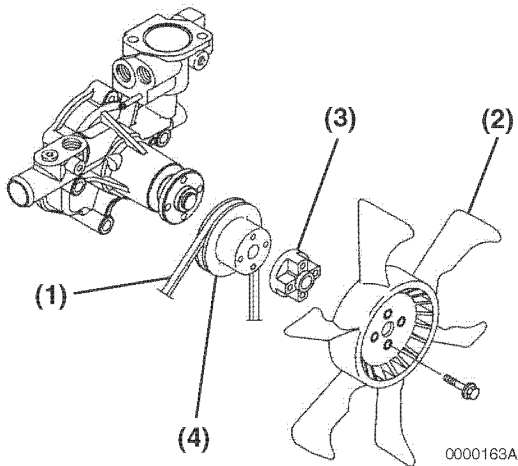

Figure 7-21
14. Reinstall the coolant pump V-pulley (Figure 7-21, (4)), spacer (Figure 7-21, (3)) (if equipped) and engine cooling fan (Figure 7-21, (2)).
15. Reinstall the cooling fan V-belt (Figure 7-21, (1)). Adjust as described in *Check and Adjust Cooling Fan V-Belt* on page 5-27.